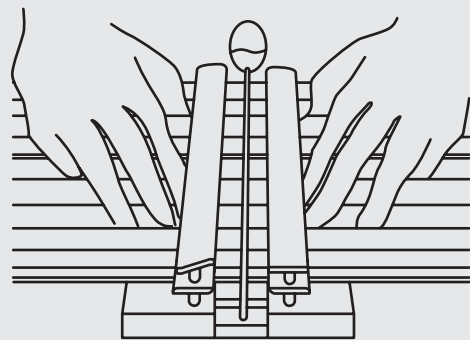

Fig.3
- profiles. Slide the two sections back together until they press against the sides of the heating blade and maintain pressure against the blade in this position until a bead of molten PVC approximately 3mm thick appears along the length of the blade. The PVC should melt without charring or burning. (Refer Fig. 3)
- 6- Slide the jig apart, remove the heating blade vertically and then slide the two halves of the profile back together holding under pressure for approximately 1 minute allowing the molten PVC to fuse together. (Refer Fig. 3)